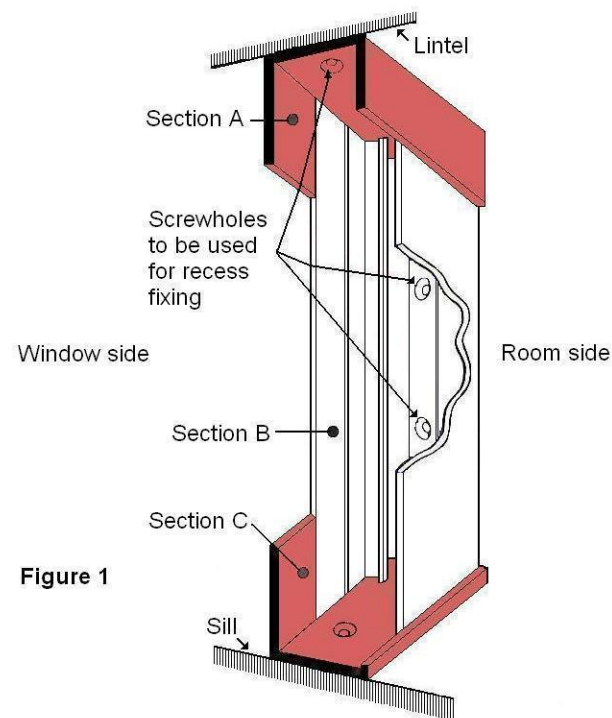

Figure 1
When recess fitting to brick, concrete, plaster etc., mark the position for drilling the holes through the screwholes shown in Figure 1. Then drill the holes deep enough to take the plastic wall plugs, to ensure a rigid fixing.
When fixing the track section to a soft wooden batten or sill, you may not need to drill and plug - just mark the position of the holes (shown in Figure 1 for recess fitting or Figure 10 for face fitting) using a small drill or bradawl.
c) Fix as described in General Information, using the screwholes indicated in Figure 1.
b) To fit the top track over the side tracks, it is necessary to remove part of the longer leg from both ends (Figure 1). Position the cut length of Section A1 squarely across the top of the side tracks so that its longer leg touches the front (room side) faces of both the right hand and left hand side tracks.
c) Now fit Section A1 over the top of the side tracks so that its longer leg aligns with the window side legs of the side tracks (Figure 1). Fix as described in General Information
Follow the above procedure to fit the bottom track to the bottom of the window recess (Figures 1 and 3).